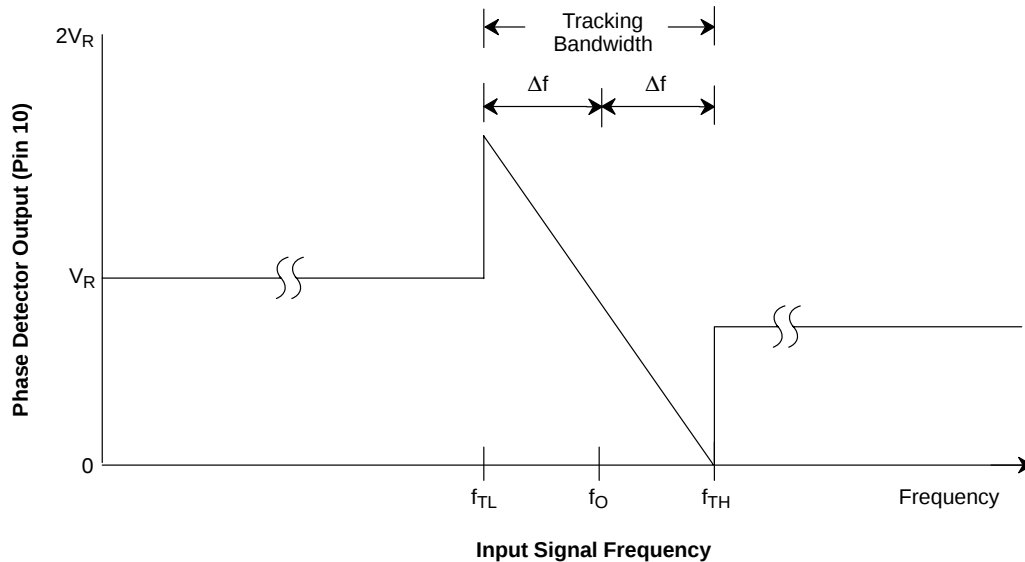
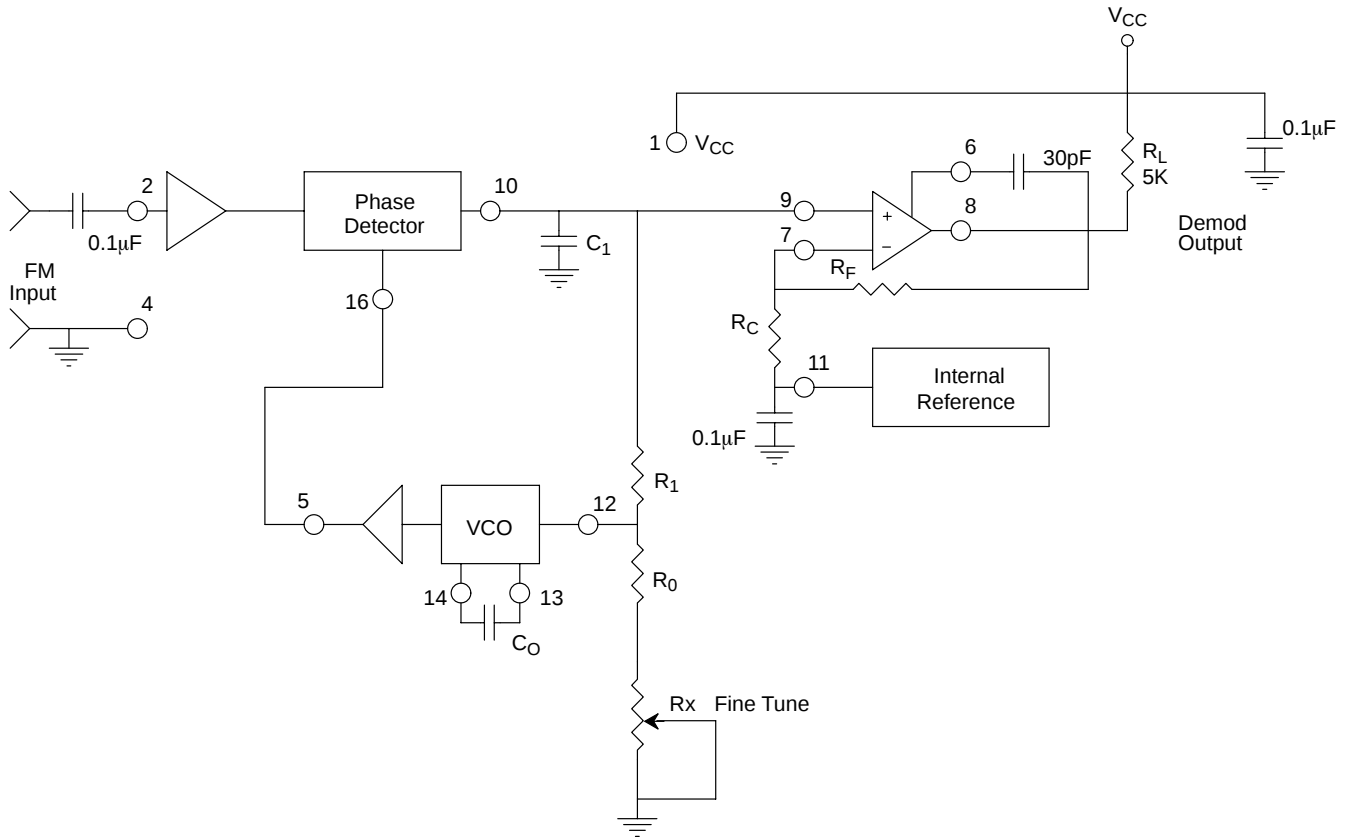

Figure 10. Phase Detector Output Voltage (Pin 10) as a Function of Input Signal Frequency
Figure 11. Circuit Connection for FM Demodulation
VCO Frequency Adjustment: VCO can be fine-tuned by connecting a potentiometer, R_X , in series with R_0 at Pin 12 (see Figure 11).
Figure 10 shows the basic frequency to voltage characteristics of XR-2212. With no input signal present, filtered phase detector output voltage is approximately equal to the internal reference voltage, V_{REF} at Pin 11. The PLL can track an input signal over its tracking bandwidth, shown in the figure. The frequencies f_{TL} and f_{TH} represent the lower and the upper edge of the tracking range, f_0 represents the VCO center frequency.
(See *Figure 3* and *Figure 10* for definition of components.)
7. VCO Conversion Gain, K_0 : (K_0 is the amount of change in VCO frequency, per unit of DC voltage change at Pin 10. It is the reciprocal of the slope of conversion characteristics shown in *Figure 10*).
XR-2212 can be used as a linear FM demodulator for both narrow-band and wide-band FM signals. The generalized circuit connection for this application is shown in *Figure 11*, where the VCO output (Pin 5) is directly connected to the phase detector input (Pin 16). The demodulated signal is obtained at phase detector output (Pin 10). In the circuit connection of *Figure 10*, the op amp section of XR-2212 is used as a buffer amplifier to provide both additional voltage amplification as well as current drive capability. Thus, the demodulated output signal available at the op amp output (Pin 8) is fully buffered from the rest of the circuit.
In the circuit of *Figure 11*, R_0C_0 set the VCO center frequency, R_1 sets the tracking bandwidth, C_1 sets the low-pass filter time constant. Op amp feedback resistors R_F and R_C set the voltage gain of the amplifier section.
The circuit of *Figure 11* can be tailored to any FM demodulation application by a choice of the external components R_0 , R_1 , R_C , R_F , C_0 and C_1 . For a given FM center frequency and frequency deviation, the choice of these components can be calculated as follows, using the design equations and definitions given on page 10.
Note: All calculated component values except R_0 can be rounded-off to the nearest standard value, and R_0 can be varied to fine-tune center frequency, through a series potentiometer, R_X , (See Figure 11).
The total tracking range of the PLL (see Figure 10), should be chosen to accommodate the lowest and the highest frequency, f_{max} and f_{min} , to be synthesized. A recommended choice for most applications is to choose a tracking half-bandwidth Δf , such that:
- d) Calculate R_1 to set tracking bandwidth (see Figure 10 and design equation 5). If a range of output frequencies are desired, set R_1 to get: